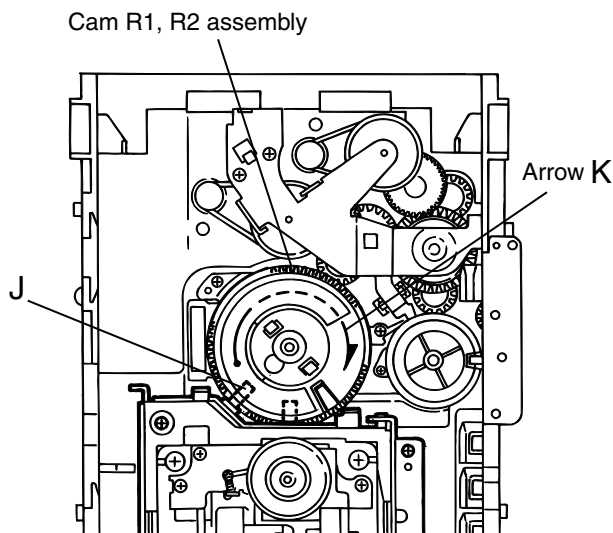

Fig.11
## ■ Removing the DVD mechanism (See Fig.11 and 12 )
1. For dismantling only the DVD mechanism without removing the DVD mechanism assembly, align the shaft "J" of the DVD mechanism assembly to the position shown Fig.11 while turning the cam R1 and R2 assembly in the arrow direction "K" .